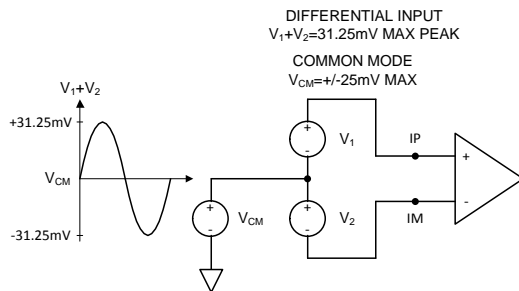
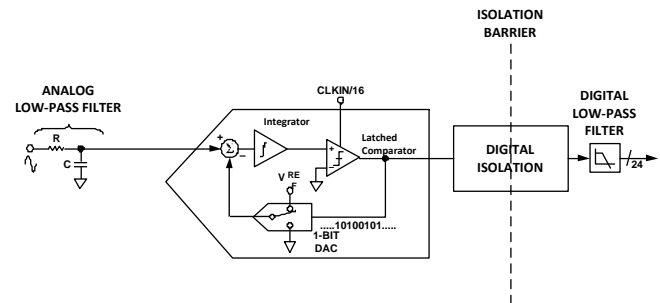

Figure 31. Maximum Input Level, Current Channels
Figure 33. First-Order Σ - Δ ADC
The ADE7913/ADE7912 has three second order sigma-delta (Σ - Δ) analog-to-digital converters (ADCs). For simplicity, the block diagram in Figure 31 shows a first-order Σ - Δ ADC. The
Figure 31 also shows an analog low-pass filter (RC) on the input to the ADC. This filter is placed outside the ADE7913/ADE7912, and its role is to prevent aliasing. Aliasing is an artifact of all sampled systems as shown in Figure 33. Aliasing means that frequency components in the input signal to the ADC, which are higher than half the sampling rate of the ADC, appear in the sampled signal at a frequency below half the sampling rate. Frequency components above half the sampling frequency (also known as the Nyquist frequency, that is, 512 kHz) are imaged or folded back down below 512 kHz. This happens with all ADCs regardless of the architecture. In the example shown, only frequencies near the sampling frequency, that is, 1.024MHz, move into the band of interest for metering, that is, 40Hz to 3.3 kHz or 2 kHz. To attenuate the high frequency (near 1.024MHz) noise and prevent the distortion of the band of interest, a low-pass filter (LPF) must be introduced. It is recommended to use one RC filter with a corner frequency of 5 kHz for the attenuation to be sufficiently high at the sampling frequency of 1.024MHz. The 20dB per decade attenuation of this filter is usually sufficient to eliminate the effects of aliasing.